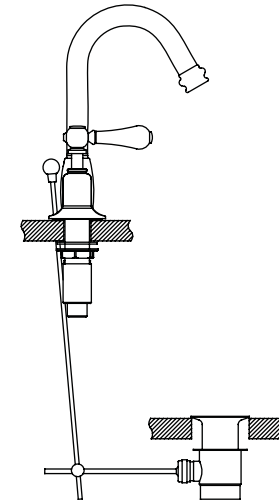

Fig. 2
- Use the washers and backnuts provided to install the 3 hole basin into the basin as shown in Fig. 2;